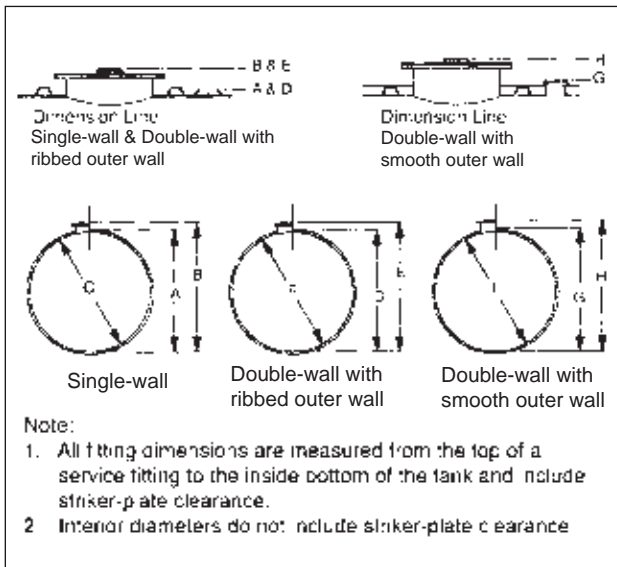

FIGURE 13-1
13.1.2. For petroleum tanks, refer to FIGURE 13-1 along with TABLE 13-1 to determine the correct dimensions for sizing internal piping.
Interior Dimensions in FIGURE 13-1	Tank Diameter